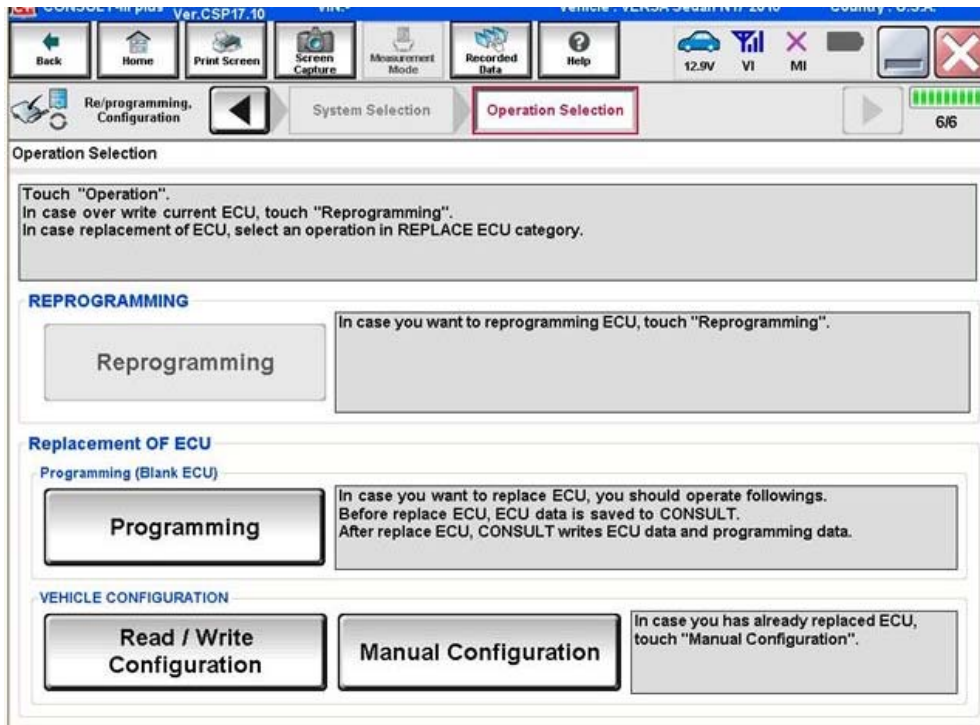

Figure 13
24. After **Confirm** is selected in step 23, the screen in Figure 13 will display.
- Leave C-III plus turned ON (it should continue to display the screen in Figure 13 while replacing the ECM).